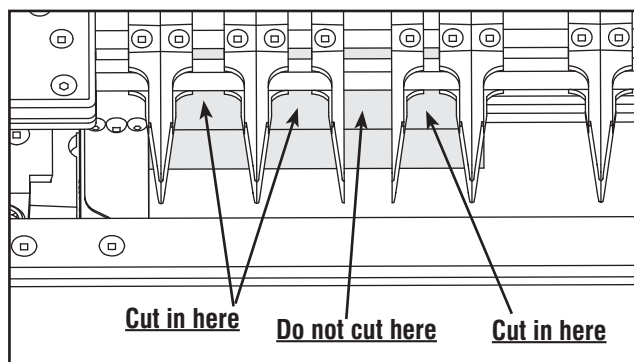

Fig. E9
**NOTE:** If you have separated a finger set, be sure to cut only between the angled walls, not between the straight ones. (Fig. E9)